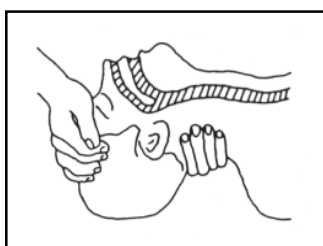

Figure 3-1
- Open airway: lift up neck, push forehead back (Fig. 3-1).